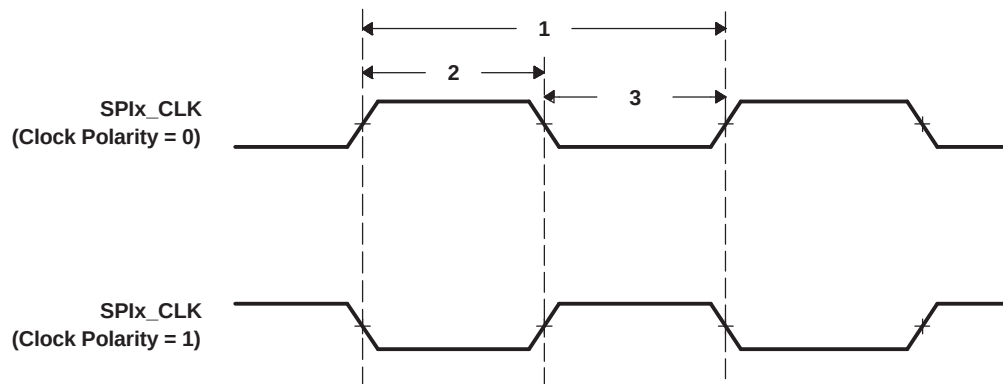

**Figure 6-62. SPI\_CLK Timing**
**Table 6-79. Timing Requirements for SPI (All Modes)(1)** (see Figure 6-62)